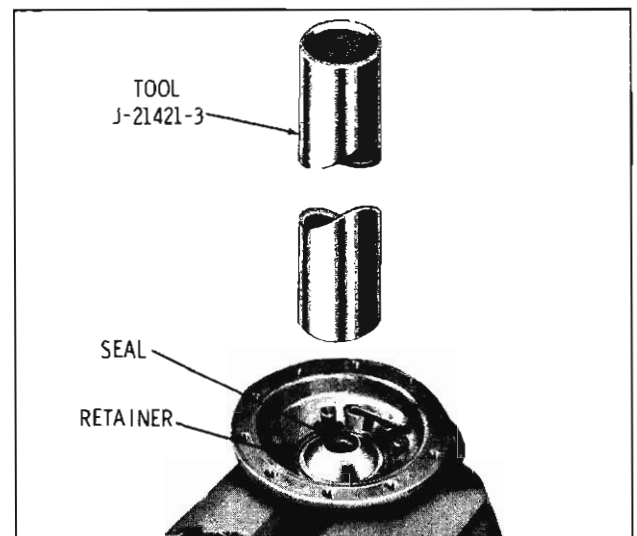

Fig. 3-63 Installing Fuel Pump Rod Seal
1. Install a new pull rod seal and retainer using Tool J-21421-3. (Fig. 3-63)